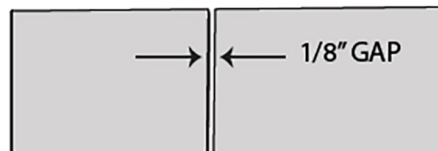

FIGURE 17
Now that the Glass Door (O) is secure, double check you have an 1/8" gap between door glass and panel glass. Make any necessary changes to the Glass Panel (P). (See Figure 17)